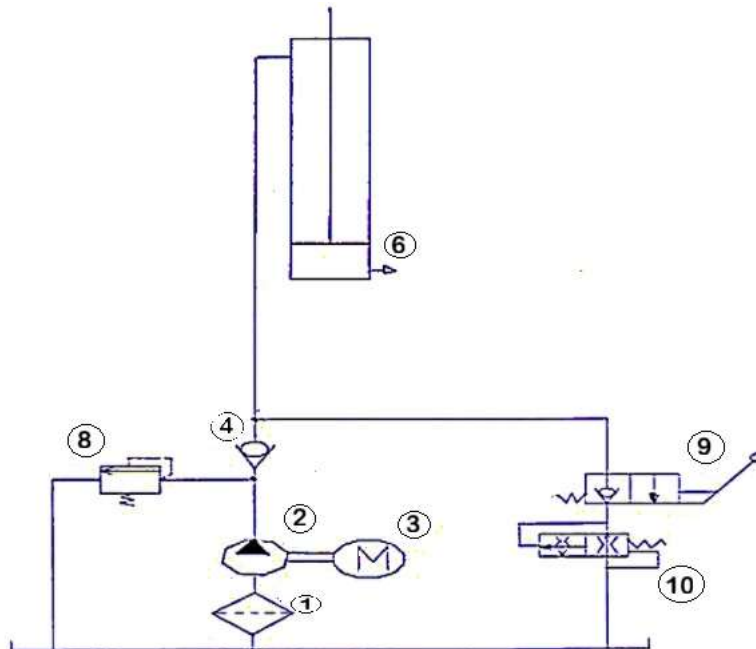

Figure 5
- As shown in above figure 5, when the start button is pressed, the pump motor is started, driving the oil pump, sucking the hydraulic oil from the oil tank into the Master cylinder (2), forcing the piston rod to move. At this time, the safety valve is closed.